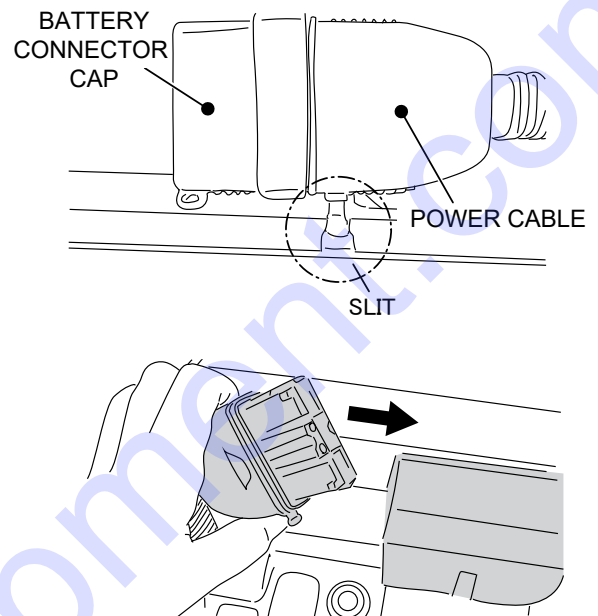

Figure 6. Battery Connector
5. Remove the battery connector cap from the power cable (Figure 6).
6. Connect the power cable to the battery connector of the battery pack (Figure 6).